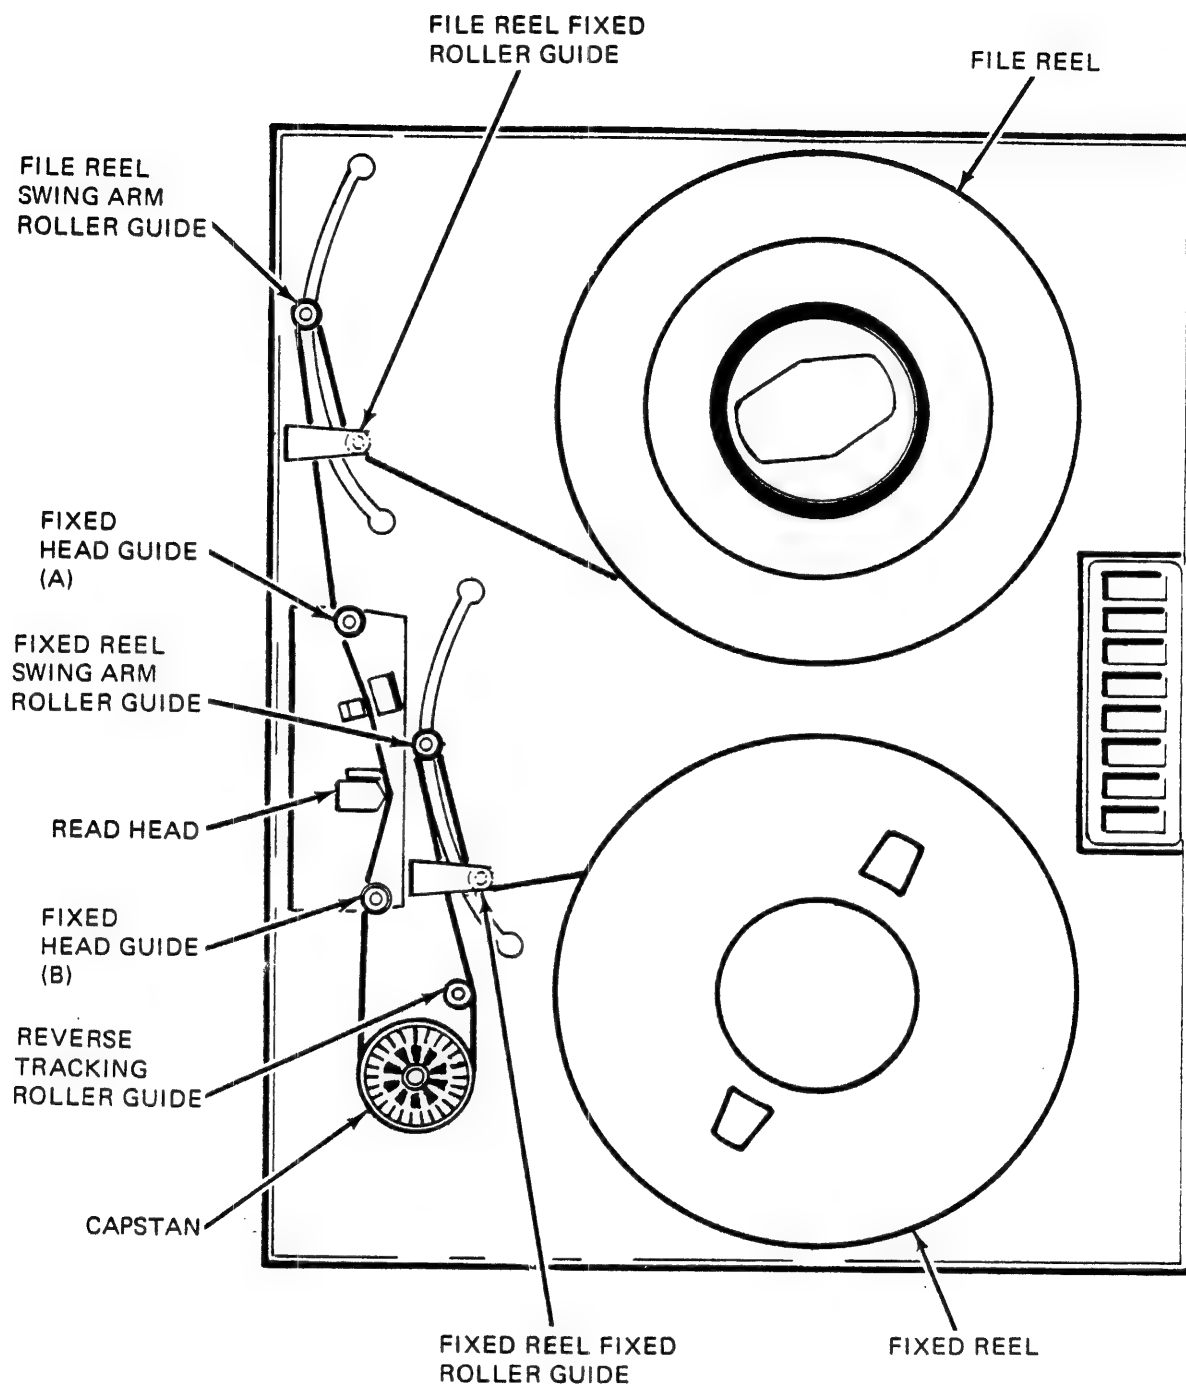

Figure 4-17. Tape Guide Diagram
Forward tape tracking is controlled by guiding elements between the file reel and the capstan. Reverse tape tracking is controlled by guiding elements between the fixed reel and the capstan. A tape guide diagram is shown in Figure 4-17.
- e. Load scratch tape and run in forward direction. Observe reference (outer) edge of tape as it passes over guide A (see Figure 4-17). Make "in" and "out" adjustment to file reel buffer arm so that tape reference edge and top of guide body are in line.